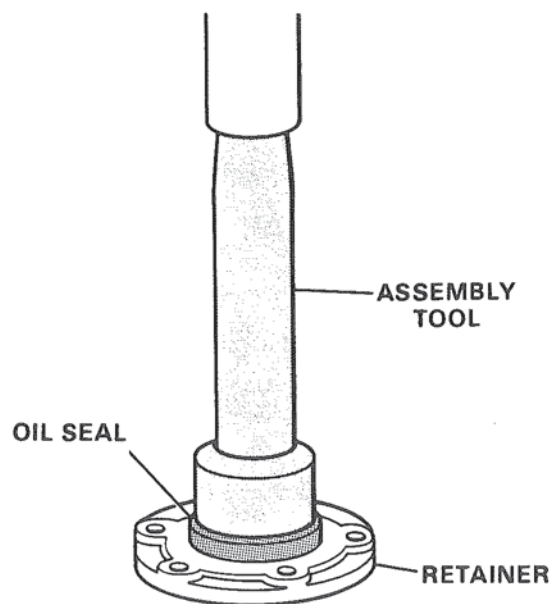

Figure 39. Pressing Oil Seal in Retainer.
3. Using arbor press and suitable tool, as shown in Figure 39, press the oil seal into the bearing retainer until the rear face of the oil seal is flush with the rear face of the bearing retainer.